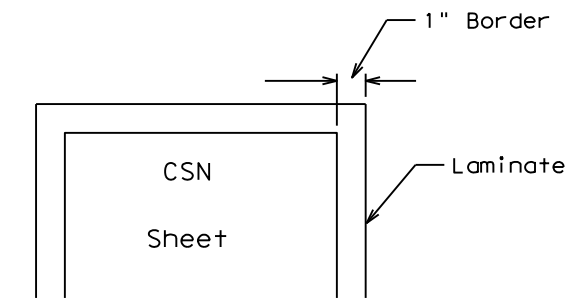

Figure 1
- CSN Sheets will be laminated and attached to the sign with an adhesive. Ensure sheets remain dry. (See Figure 1).